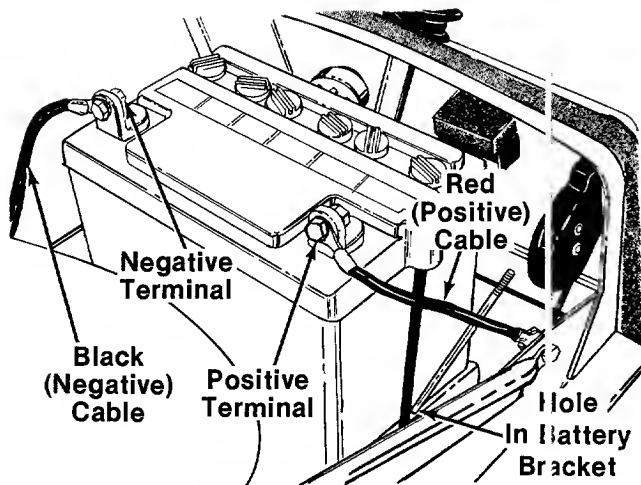
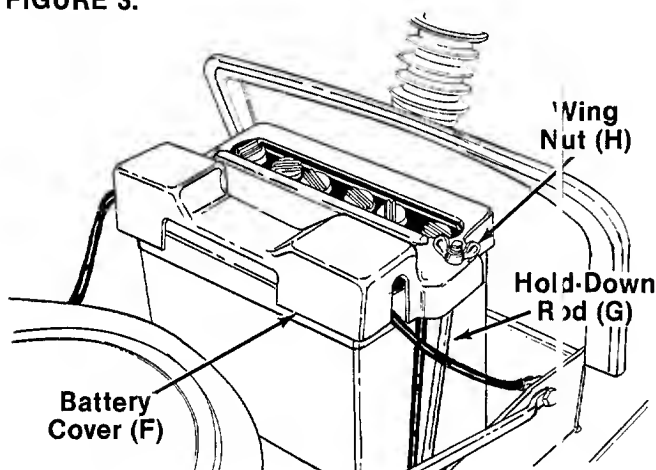

FIGURE 3.
FIGURE 4.
2. Place the battery in the lawn tractor so that the positive terminal is facing the right side of the unit. See figure 3.
3. Slide the square nut (provided with battery hardware) into the positive (+) terminal. Place the positive (heavy red wire) cable on the positive terminal. Secure with screw provided. See figure 3.
5. Hook one hold-down rod (G) into the hole in the edge of the battery bracket beside the battery. See figure 3. Place the battery cover (F) in position over the hold-down rod. Secure with wing nut (H). Attach other hold-down rod to the other side of battery cover in the same manner. See figure 4.